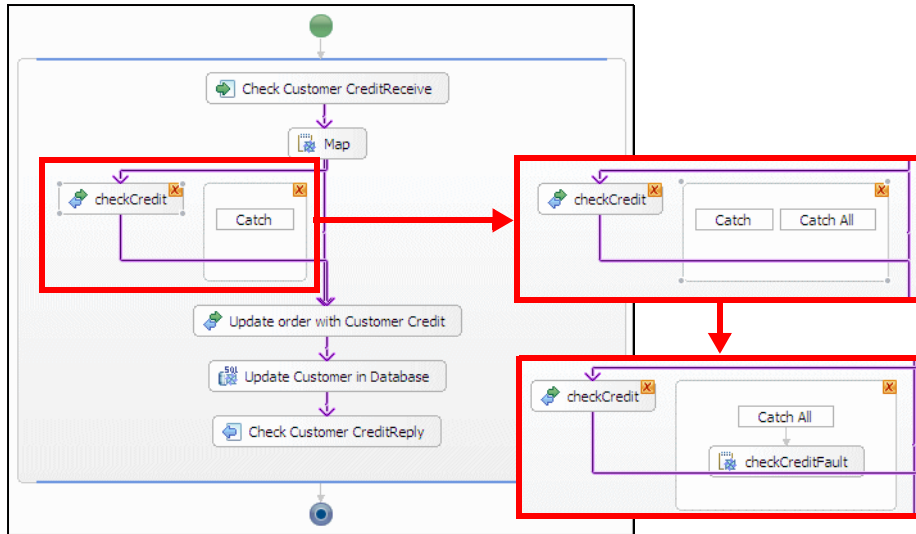

Figure 16-41 Adding a fault handler to the Web service call
- ▶ A fault handler box with a catch block appears next to the activity (Figure 16-41).